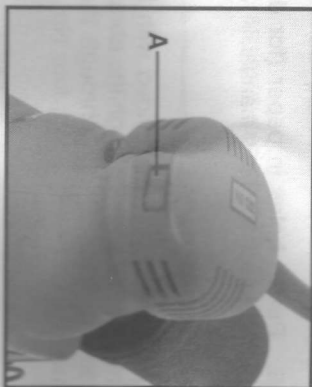

Fig. 8
4. The switch button (A) Fig. 8, is labeled "ON" and "OFF". Depress the "ON" end of the switch button to start motor. Depress the "OFF" end of the switch button to stop motor.